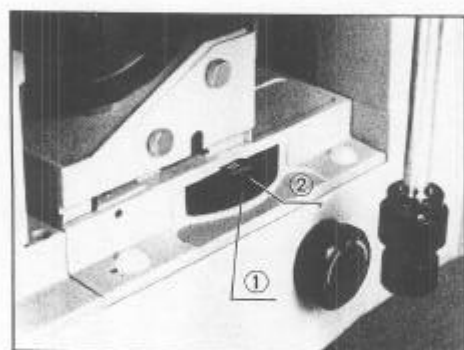

Fig. 32
- 2) Rotate the magnification changer to the CT position. (Fig. 32)
- 3) Focus on the phase annulus ③ by means of the focus ring ②. (Figs. 32, 33)
- 6) Rotate the magnification changer ① to the "1X" position, and observe the specimen to check the phase contrast effect. (Figs. 32, 35)